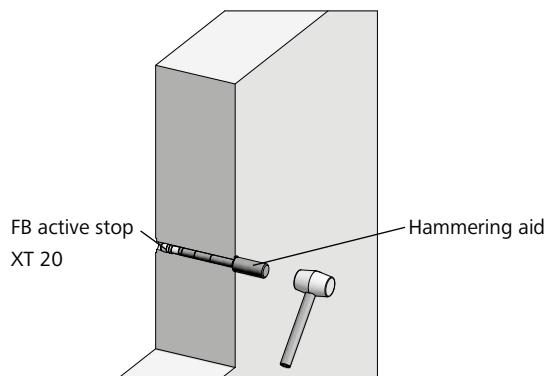

Fig. 72.4
3. Drive the FB active stop in further using the hammering aid (delivered with the FB active stop XT 20 set) and hammer (Fig. 72.4). To enable the FB active stop to be positioned correctly in the tie hole, the hammering aid has marker rings for the wall thicknesses 15, 20, 24, 25 and 30 cm. For this purpose, it is shortened at the marker ring corresponding to the desired wall thickness. The hammering aid must be driven in up to the stop (Fig. 72.4). If the wall thickness differs from those listed above, the required length of the hammering aid can be calculated using the following formula: